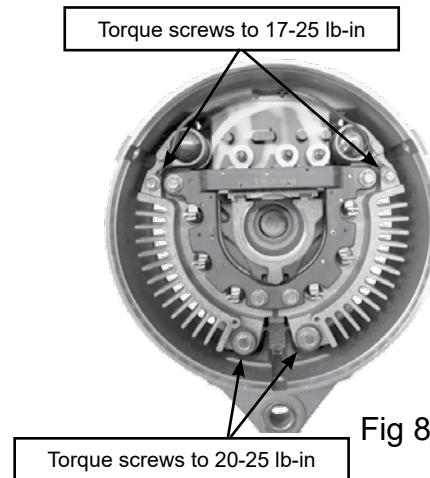

Fig 8
Step 9: Torque hardware per Fig 8.